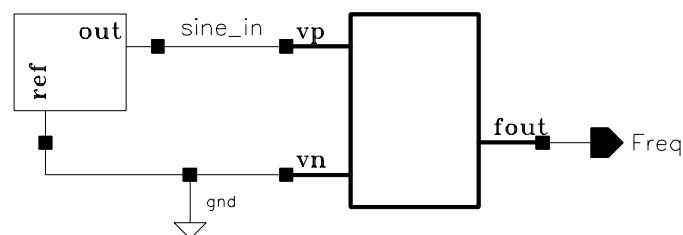

Figure 7. Test bench schematic for **FreqMeter**.
- b. Instantiate the **FreqMeter** cell you just created and the **SweptSine** component from the current **VerilogALab** library; build your schematic as in Figure 7.